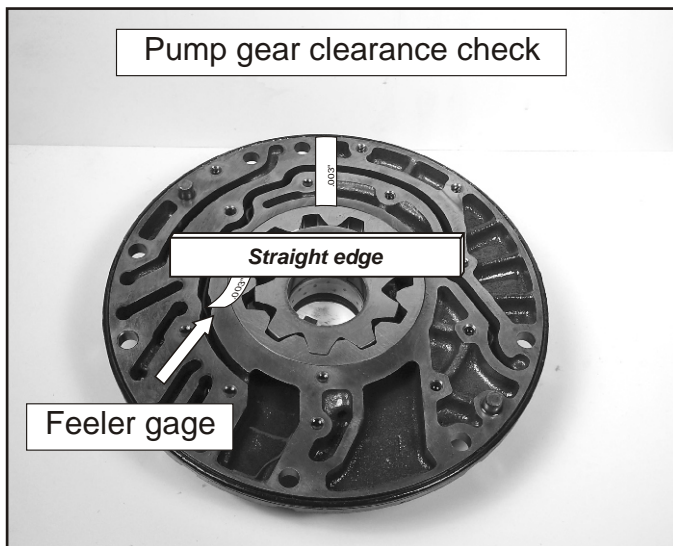

Figure 109
58. Using a straight edge, check the pump gear to pump face clearance, as shown in Figure 109. Clearance must be between .001"-.003." The maximum clearance is .004." Using a feeler gage check the outer pump gear to pump body clearance. Clearance must be between .003" and .006." The maximum is .008."